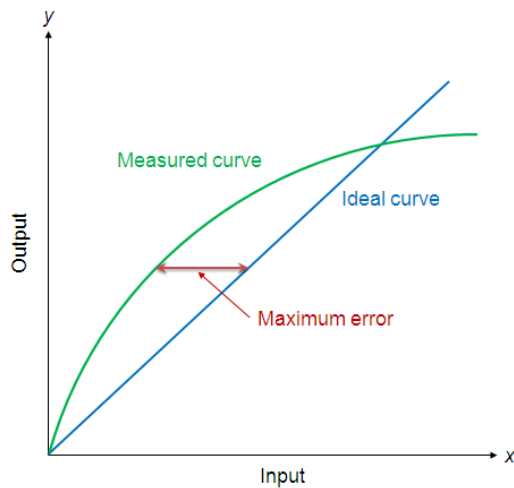

Fig. 2.1 Non-Linearity
- v) **Non-Linearity:** The nonlinearity indicates the maximum deviation of the actual measured curve of a sensor from the ideal curve. It is shown in fig. 2.1